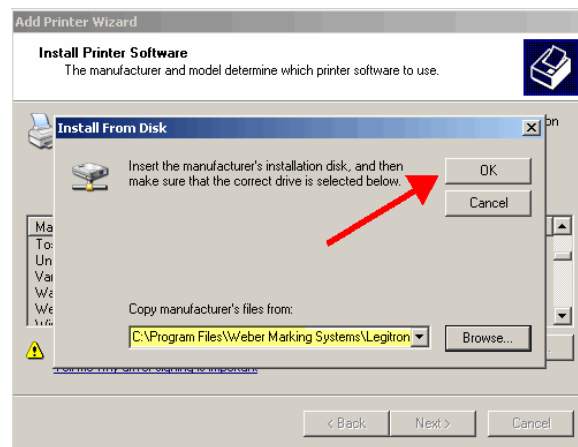

Figure 18
22. Click OK on the Install from Disk window. (Figure 18)